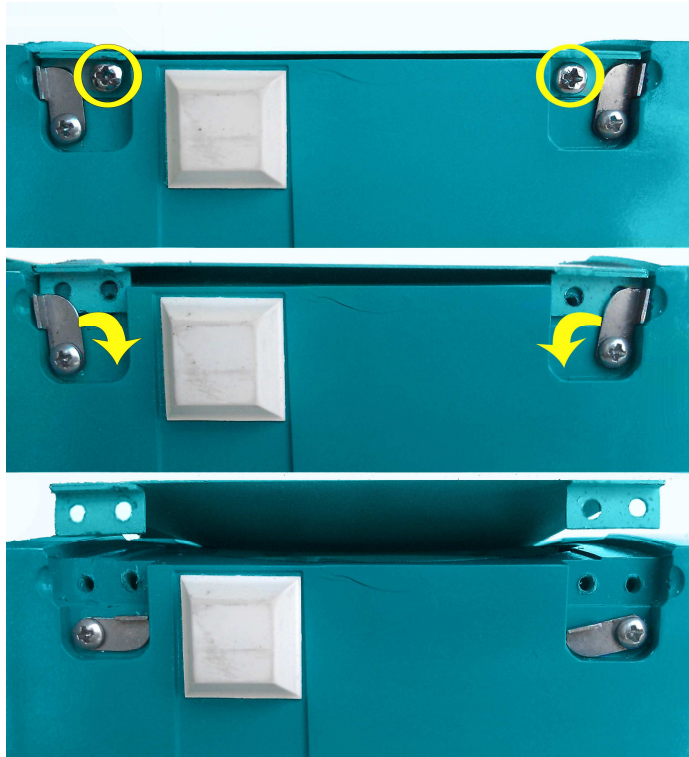

Fig. 2-28 – Removing the right-hand side cover
- Put the analyzer on the left-hand panel, unscrew the fixing screws, turn the latches down and remove the cover out of the slot (see Fig. 2-28);
- Put the analyzer on the left-hand panel, unscrew the fixing screws, turn the latches down and remove the cover out of the slot parallel to the surface of the instrument (see Fig. 2-28);